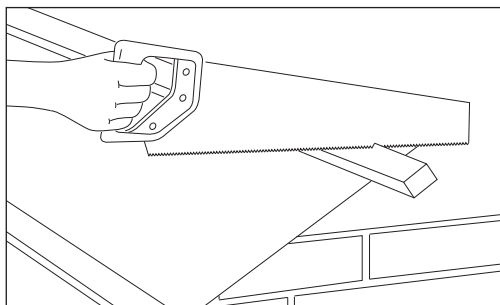

Fig 1 Saw fixing battens flush
- 2 Saw ends of tiling battens off flush with gable wall or bargeboard and nail within a maximum of 500mm from end (Fig 1).